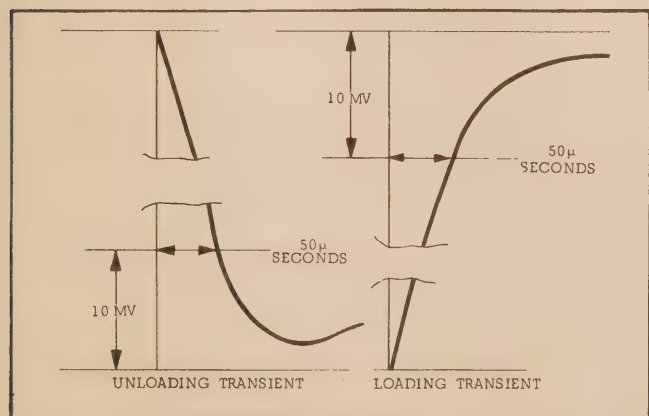

Figure 5-10. Transient Recovery Time, Waveforms
k. Starting from the major graticule division representative of time zero, count to the right 50 μ sec and vertically 10 mV. Recovery should be within these tolerances as illustrated in Figure 5-10